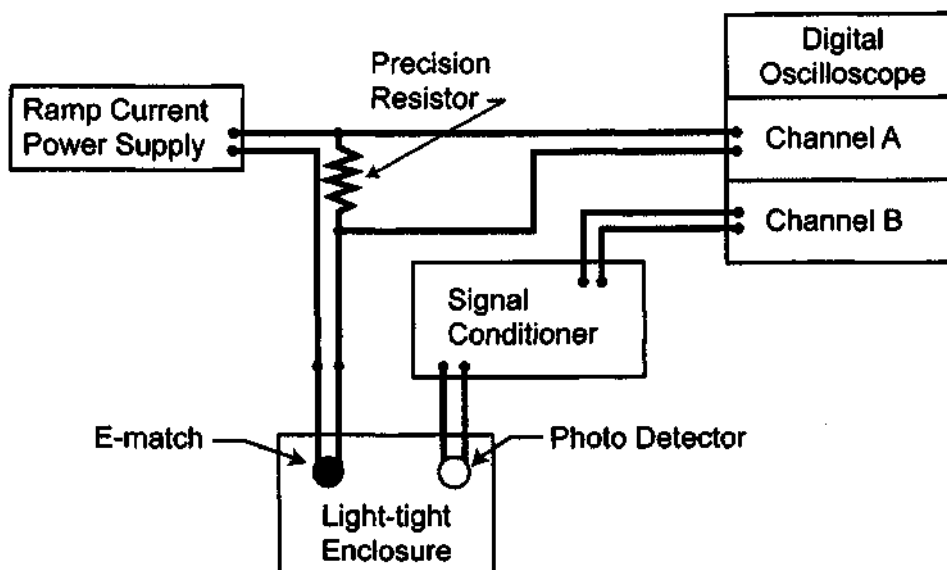

Figure 1. The configuration of equipment used to make the ramp current measurements.
The ramp firing current test was selected because it was thought to be able to reveal much about an e-match's performance in a relatively small number of trials (typically about 25 match firings). In these tests, e-matches are subjected to a rapidly increasing electric current while being monitored to detect the moment the match ignites (as evidenced by the production of light). The setup for these tests is shown in Figure 1. The ramp current power supply provides the firing current; however, that current starts at zero and increases progressively. Further, the rate of increase is adjustable (i.e., the current can be set to rise relatively slowly, rise rapidly, or anywhere between). The current is monitored as a voltage drop across an NBS calibrated resistor, using one channel (A) of a digital oscilloscope. The e-match under test is located inside a light-tight enclosure along with a photo detector. When the match fires, the light produced is sensed by the photo detector and, after conditioning, the signal is directed to the second oscilloscope channel (B).